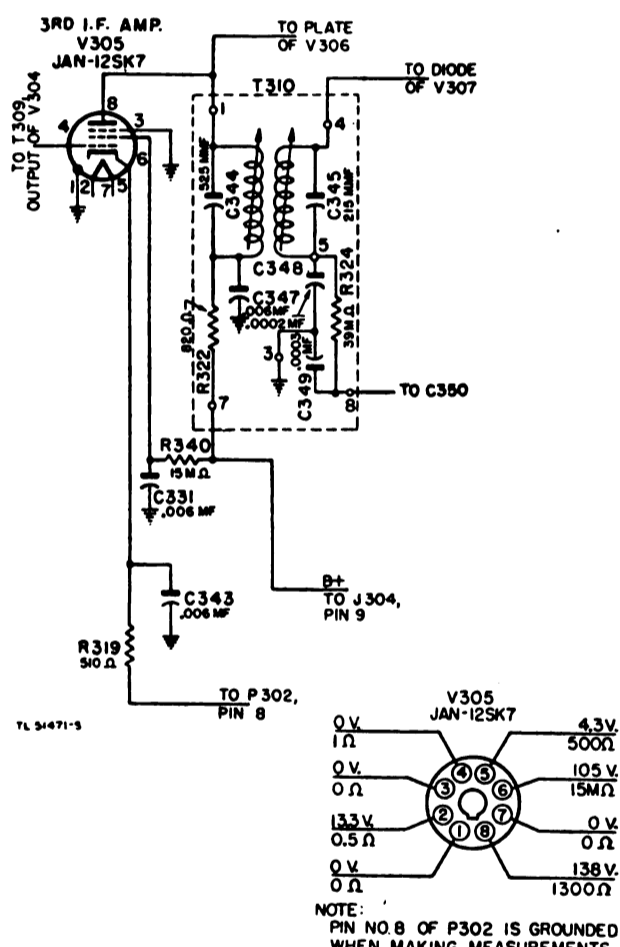

Figure 19. Third intermediate-frequency amplifier stage schematic, Radio Receiver BC-652-A.
a. STAGE DATA. (1) Third i-f amplifier stage shown in figure 19.
(2) Voltage and resistance values for socket terminals of Tube JAN-12SK7 (V305) to ground, shown on stage schematic.
(3) Parts data for third i-f amplifier, table XIII.
b. TROUBLE LOCATION. (1) *Tube check.* Remove the tube from socket. Test with the tube checker and replace with a new tube if necessary. In replacing tube see that it is seated firmly in its socket.
(fig. 19)